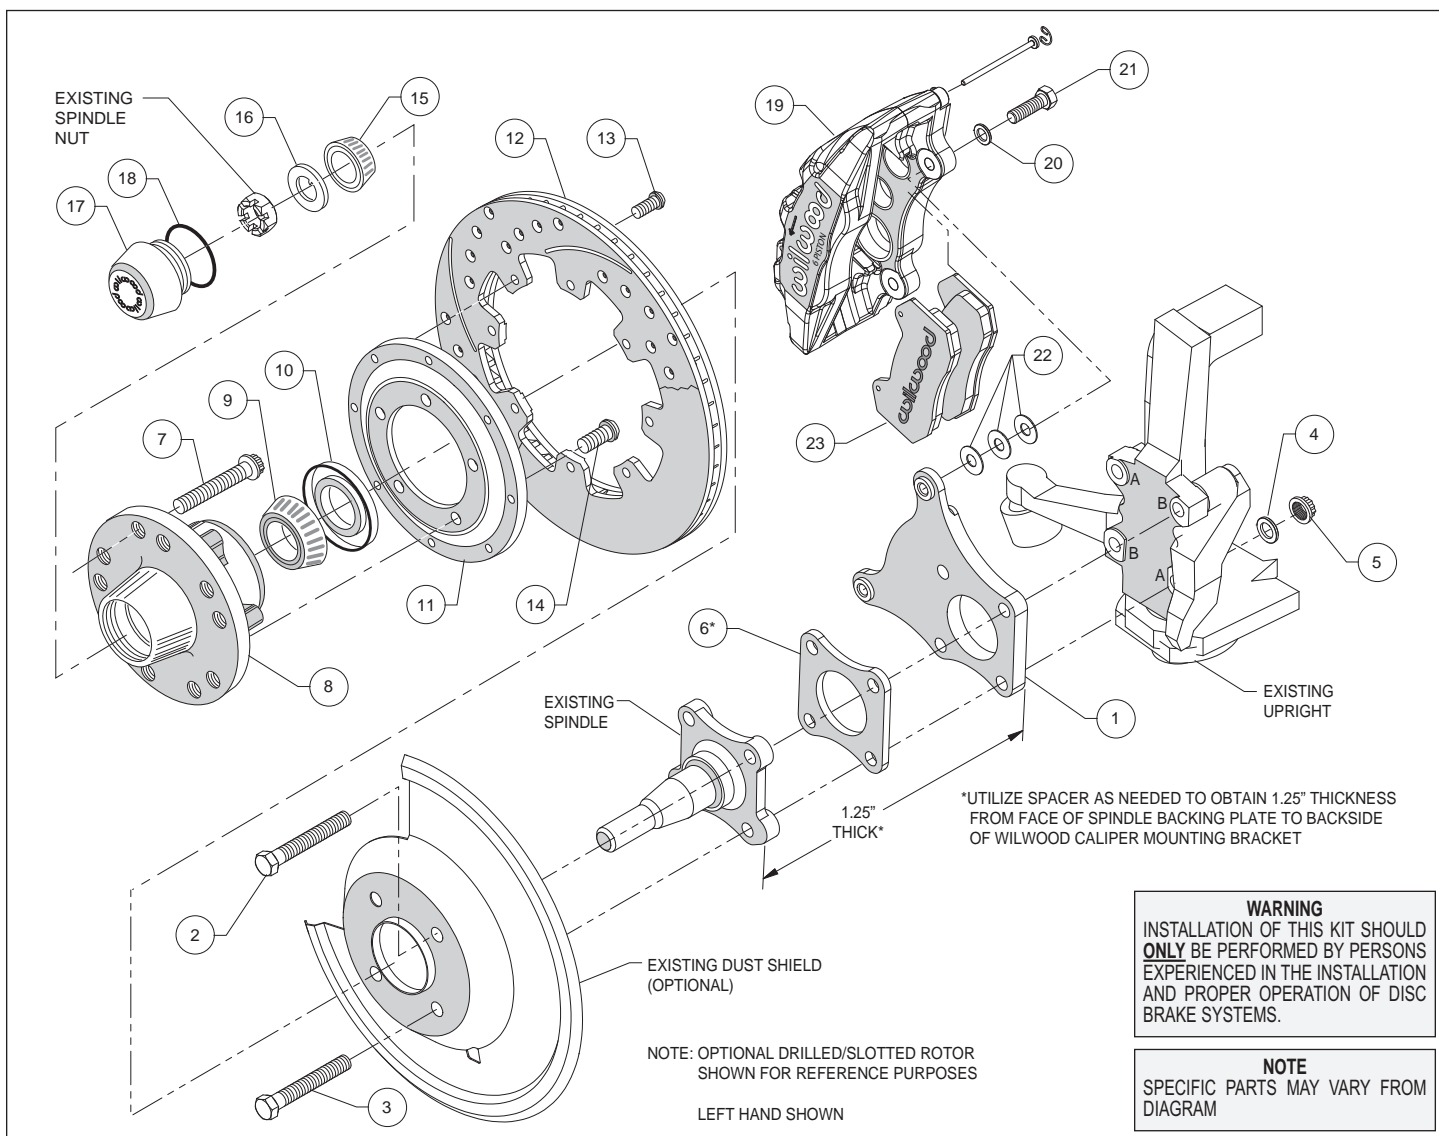
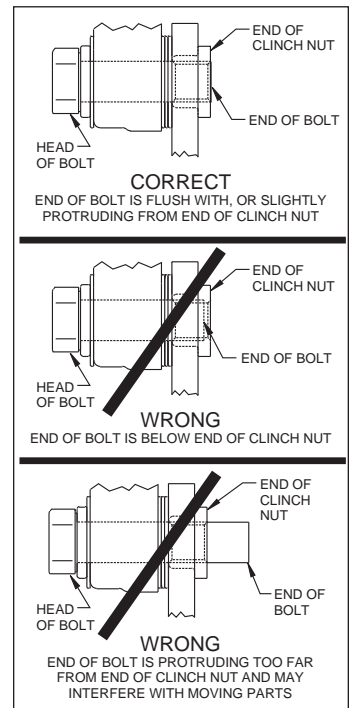

Figure 1. Typical Installation Configuration
Figure 3. Clinch Nut Engagement Diagram
**Assembly Instructions** (numbers in parenthesis refer to the parts list, on the preceding page and Figure 1): **CAUTION:** *All mounting bolts must fully engage clinch nuts.* Be sure to check that all bolts are either flush or protruding through flanged side of clinch nut after shimming, Figure 3.
- Align caliper mounting bracket (1) with the corresponding holes, between the upright and the spindle. Attach using bolts (2 and 3), washers (4), and locknuts (5) as shown in Figure 1 and Photo 1. Bolt (2) goes into holes on the upright designed with a "B" and bolt (3) goes into the "A" marked holes, Figure 1. Measure the thickness of the spindle and mounting bracket, Figure 1. If approximately 1.00", place spacer (6) between the spindle and mounting bracket to achieve the correct thickness. Temporarily tighten the mounting bolts. Ensure that the flanged heads of the clinch nuts in the bracket are facing outboard, Photo 1. **NOTE:** *The bracket must fit squarely against the mounting bosses on the upright.* Inspect for interference from casting irregularities, machining ridges, burrs, etc. Remove bolts one at a time, apply red *Loctite*® 271 to threads and torque to 47 ft-lbs.
- Install wheel studs (7) into the hub (8), Photo 2. Torque to 77 ft-lb. **NOTE:** *There are two five lug patterns in the hub (5 x 4.50 and 5 x 4.75).* Ensure the correct hub stud pattern is being used to fit the wheel application.
- Pack the large inner bearing cone (9) with high temperature disc brake bearing grease (available from your local auto parts store) and install into the backside of the hub (8), Photo 3.
- Install the grease seal (10) by pressing into the backside of the hub (8), flush with the end of the hub, Photo 3.
- Orient the rotor (12) and the rotor adapter (11) as shown in Figure 1 and Photo 4. Attach the rotor to the adapter using bolts (13). Using an alternating sequence, apply red *Loctite*® 271 to the threads, and torque to 25 ft-lb.
- Mount the adapter/rotor assembly (11/12) to the hub (8) using bolts (14), as shown in Figure 1 and Photo 5. Using an alternating sequence, apply red *Loctite*® 271 to the threads, and torque to 45 ft-lb.
- Screw dust cap (17) into hub (8), Photo 7. Friction created by the o-ring (18) on the dust cap keeps it from unscrewing. **NOTE:** The O.D. of the existing OEM spindle washer may be larger than the I.D. of the dust cap not allowing it to seat against the hub face. Therefore, use the spindle washer (16) supplied with the kit instead of the OEM washer.
- NOTE:** Please reference the caution statement at the beginning of the assembly instructions. This kit contains distinct right and left hand calipers that must be mounted in a specific direction, as described below. Mount the caliper (19) onto the caliper mounting bracket (1) using bolts (21) and washers (20), as shown in Figure 1. Initially place three .035" thick shims (22) on each bolt between the caliper and the bracket, Photo 8. Ensure that the caliper is mounted so the largest pistons are at the rotor exit end of the caliper, in relation to the direction of rotor rotation. Temporarily tighten the mounting bolts and view the rotor (12) through the top opening of the caliper. The rotor should be centered in the caliper, Photo 9. If not, adjust by adding or subtracting shims between the bracket and the caliper. Always use the same amount of shims on each of the two mounting bolts. **NOTE:** The end of each bolt must be flush with or slightly protruding from the head of the clinch nut, as shown in Figure 3. If necessary place spare shims between washer (20) and caliper mounting ear to achieve the proper clinch nut engagement. Once the caliper alignment and clinch nut engagement are correct, remove the caliper bolts and caliper.
- Remove the two pad retaining pins from the caliper (19) by carefully popping out the pin retaining clips and sliding out the pins. Insert the brake pads (23) into the caliper from the bottom, Figure 1 and Photo 10, with the friction material facing the rotor. Secure the brake pads in place with the pad retaining pins and clips, Photo 11. Reinstall the caliper onto the caliper mounting bracket. Apply red *Loctite*® 271 to bolt threads (11), and torque to 40 ft-lb.